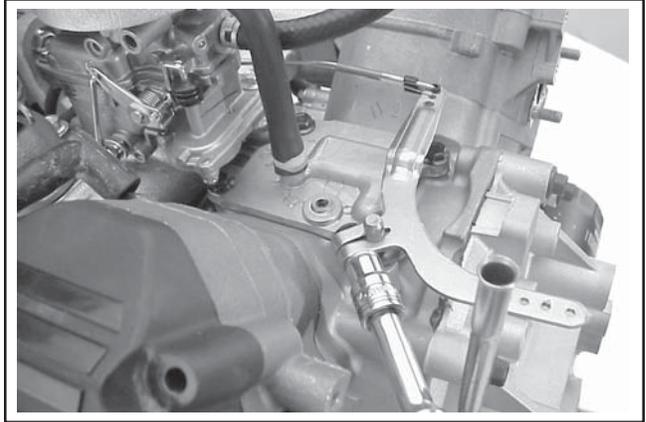

Figure 9-21. Loosening Governor Lever Mounting Nut.
1. Loosen the hex flange nut of the governor lever mounting screw. See Figure 9-21. Leave the throttle linkage and spring connected to the lever. Lift the governor lever off of the governor shaft and lay the assembly on top of the crankcase, to be removed with the carburetor.